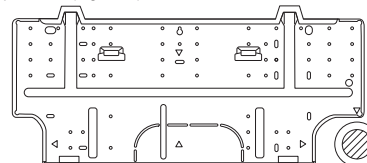

Fig. 3-38
- Attach the rear panel to the wall with the 8 screws provided. (Fig. 3-38)